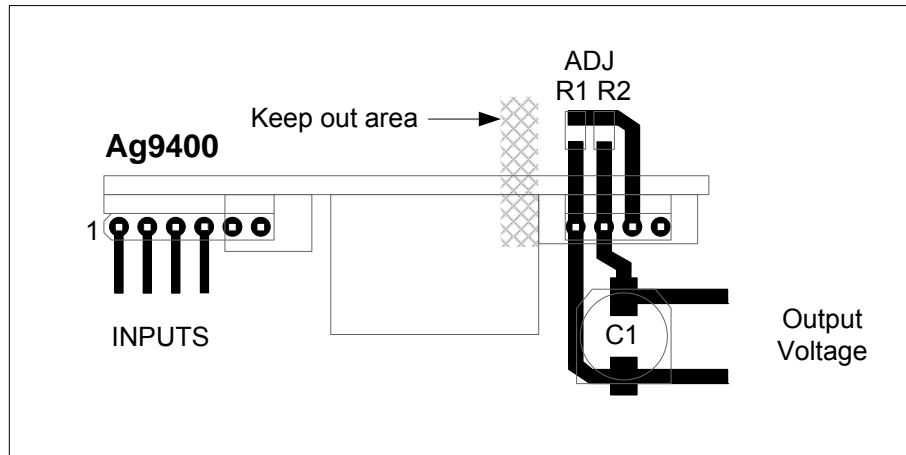

Figure 7: Typical Layout
| Figure 7: Typical Layout..... | 10 |
To meet the safety isolation requirements of IEEE802.3af section 33.4.1 a Powered Device (PD) must pass the electrical strength test of IEC 60950 sub clause 6.2. This calls for either a) 1500Vac test or b) 1500V impulse test. The Ag9400 is specified to meet the 1500Vdc impulse test. It is also important that the tracks on either side of the isolation barrier have at least a 3mm clearance, see Figures 7 & 8 and Section 11 for more information.
Figure 7: Typical Layout gives an example of the tracking needed for the Ag9400. R1 and R2 are optional components, C1 must be fitted. The thermal performance of the Ag9400 can be improved by increasing the surface area of the output tracks (+VDC and -VDC). This is not applicable if the Ag9400 is in a socket.